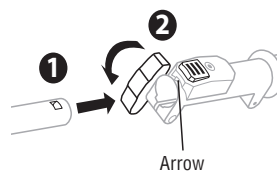

Fig. 3B
3. Align the installation hole on the attachment shaft with the arrow on the power head shaft and push the attachment shaft into the power head shaft until you hear a "click" sound, which means that the attachment shaft is mounted into place. (Fig.3B)